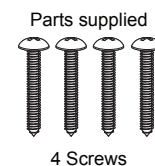

Figure 7B
- 5 Secure the drawer with the 4 screws supplied. See Figure 7B.